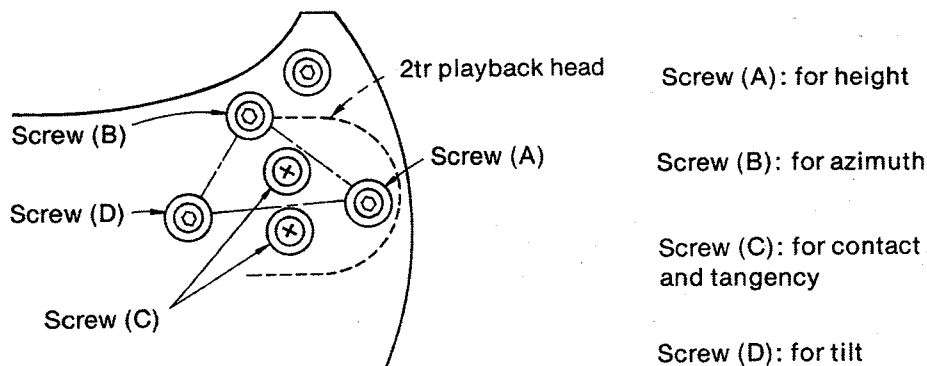

Fig. 28
The screws used to make each adjustment of the 2-track playback head are in the places shown in figure 28.
- (2) Adjust the azimuth-adjustment screw (B) (figure 28) so that playback output (VTVM readout) becomes maximum.